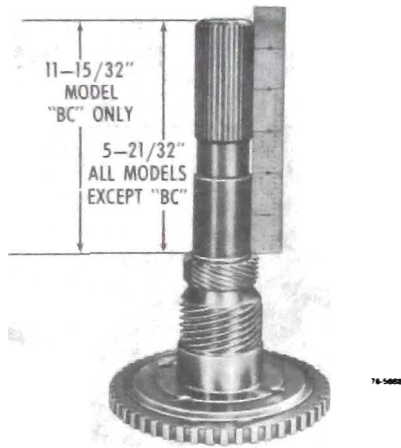

Figure 76-568
b. Install new steel speedometer drive gear. Press to 5-21/32" for "BA", "BB", and "BT" models, and 11-15/32" for "BC" model. See Figure 76-568.